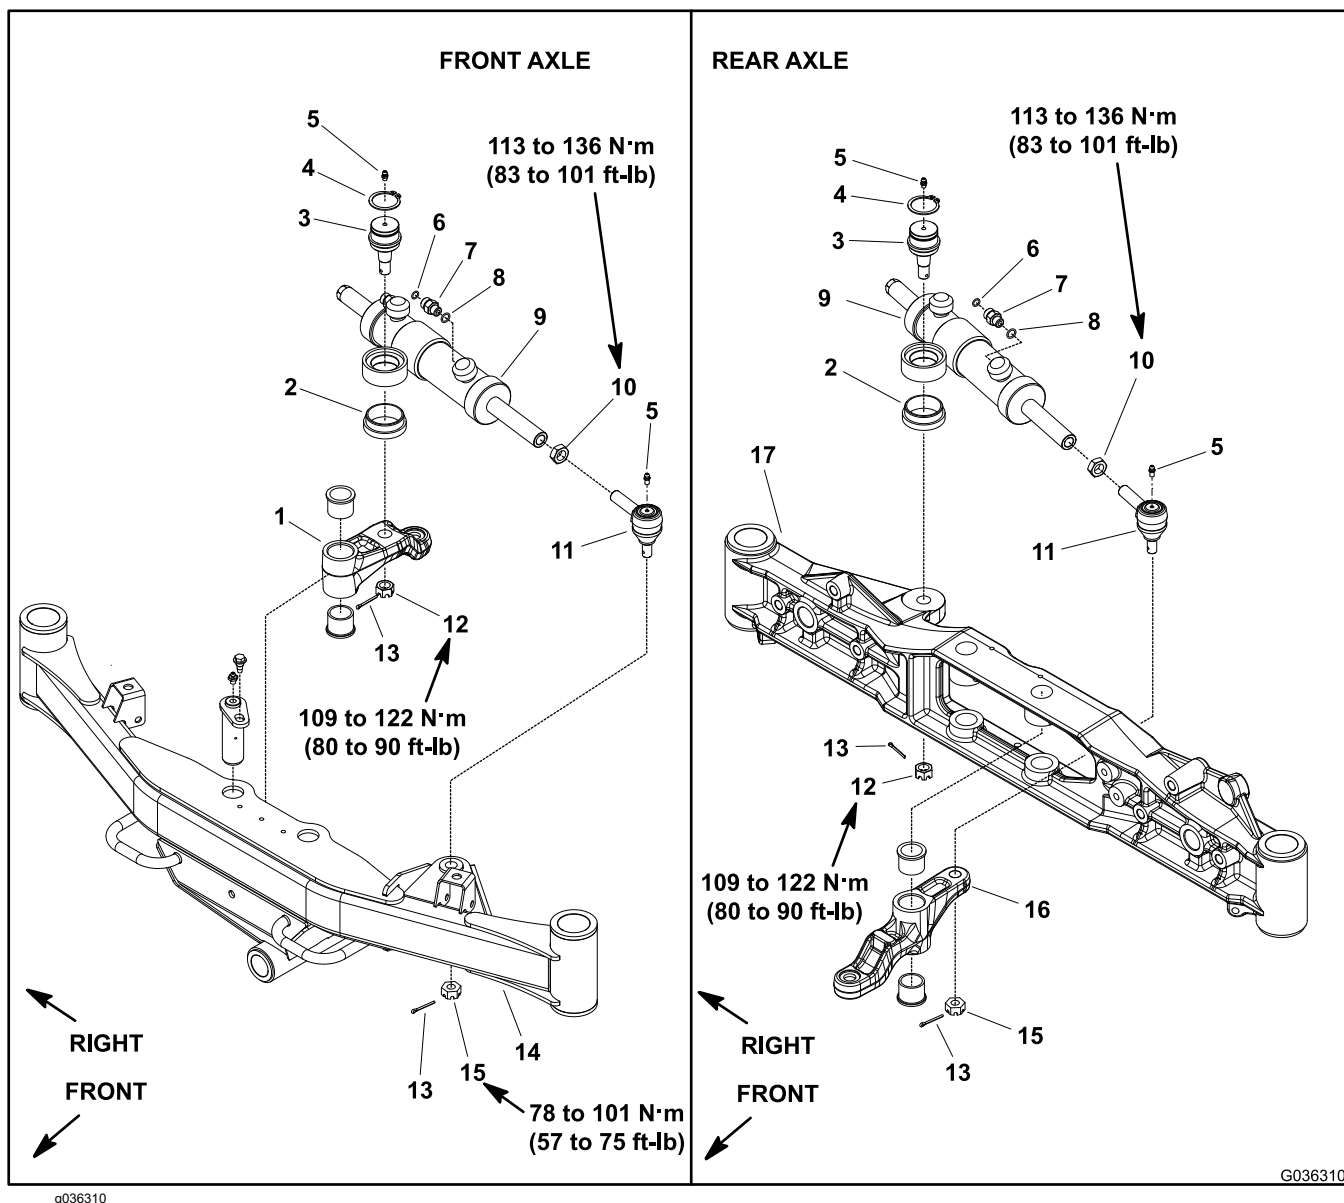

Figure 145
9. Remove the cotter pins (item 13 in Figure 145) and slotted hex nuts that secure the steering cylinder to the axle.
10. Separate the steering cylinder ball joint (item 3 in Figure 145) and rod end from the axle assembly. Remove the steering cylinder from the machine.
12. If necessary, remove the rod end (item 11 in Figure 145) from the steering cylinder shaft.
2. If removed, press the ball joint (item 3 in Figure 145) into the barrel and secure the ball joint with the retaining ring.
3. If the rod end (item 11 in Figure 145) was removed from the steering cylinder shaft, thread the rod end into the shaft so that the distance from end of the shaft to center of the grease fitting in the rod end is 44.5 mm (1.750 inches) (Figure 147). Torque the jam nut to **113 to 136 N·m (83 to 101 ft-lb)**.
6. Secure the steering cylinder to the machine with the slotted hex nuts (items 12 and 15 in Figure 145).
- A. On both the front and rear axle steering cylinders, torque the rod end slotted hex nut (item 15 in Figure 145) to **78 to 101 N·m (57 to 75 ft-lb)**. If necessary, continue to tighten hex nut to allow cotter pin installation.
- B. On both the front and rear axle steering cylinders, torque the barrel end slotted hex nut (item 12 in Figure 145) to **109 to 122 N·m (80 to 90 ft-lb)**. If necessary, continue to tighten the hex nut to allow cotter pin installation.